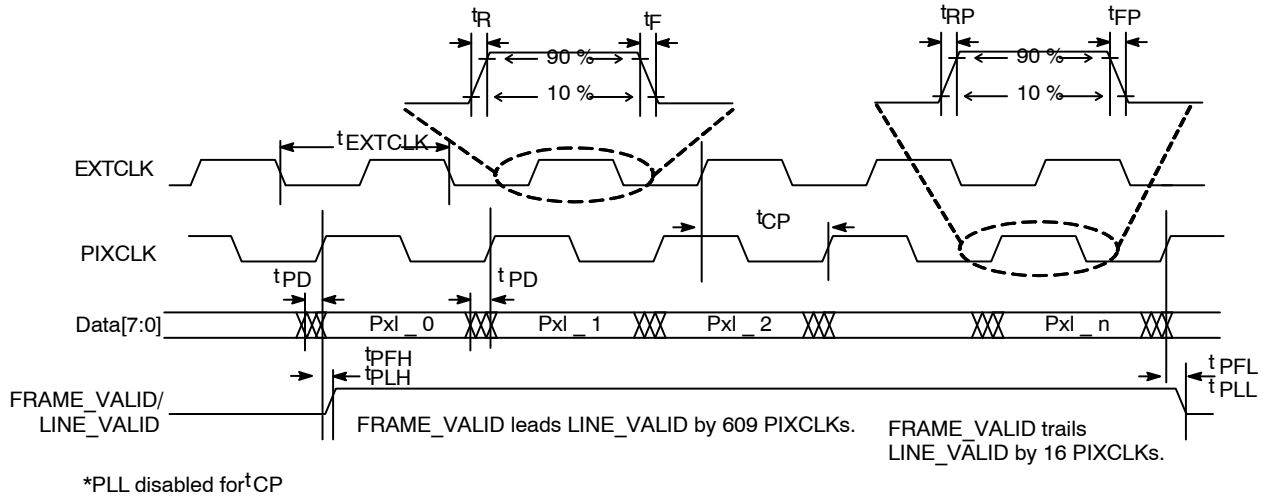

Figure 29. I/O Timing Diagram
See Figure 29 and Table 20 for I/O timing (AC) characteristics.